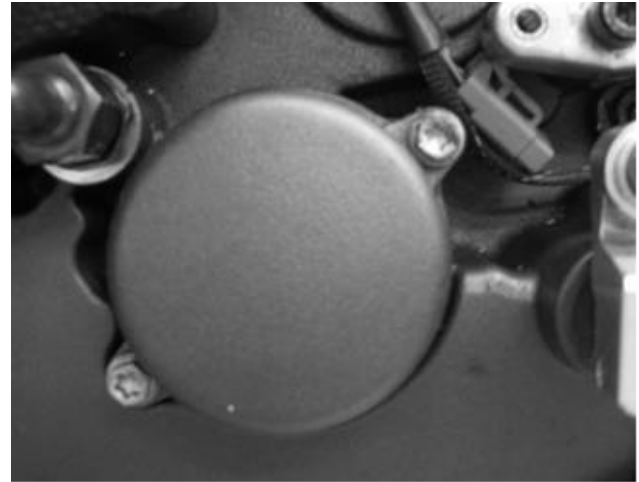

Figure 31. Oil Filter Cover.
- A. Remove the two screws to detach the oil filter cover. See figure 31.